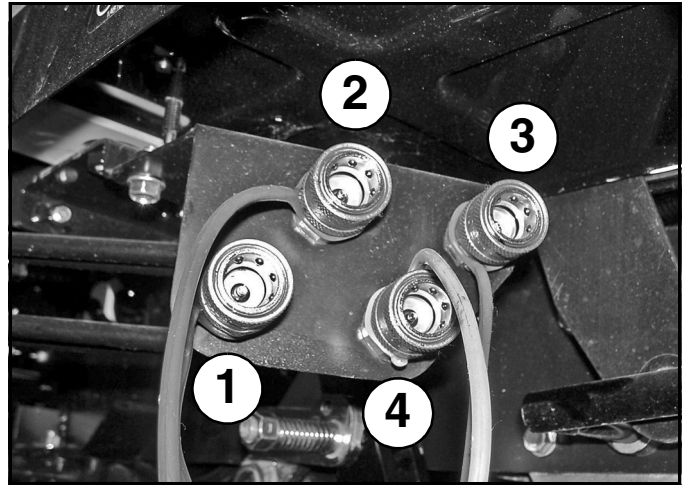

Figure 7. Tractor Hydraulic Remote Connection
1. Route hydraulic hoses along loader mount and connect to tractor hydraulic couplers, located under right side of operator's platform. See Figure 7.